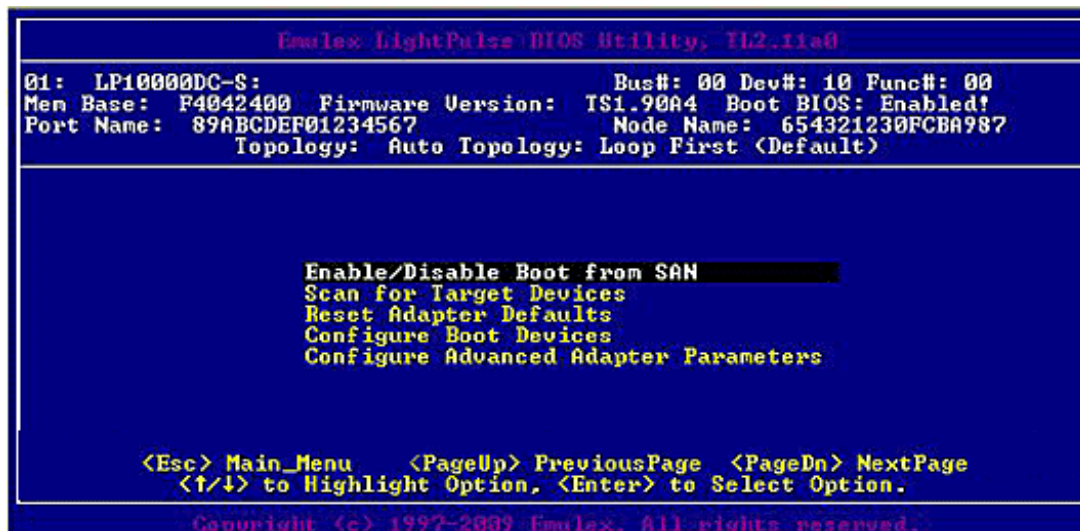
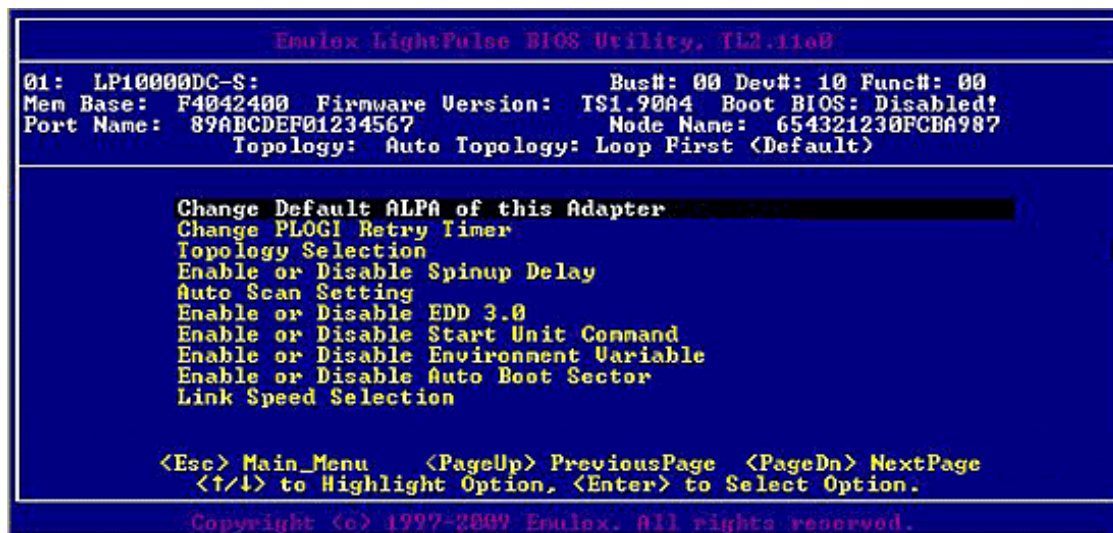

Figure 4-2 Main Configuration Menu
Figure 4-9 Adapter Configuration Menu
2. Select the adapter to configure by entering its number. The main configuration menu is displayed (Figure 4-2).
1. On the main configuration menu (Figure 4-2), select **Configure Boot Devices**.
When the main configuration menu (Figure 4-2) is displayed, select **Configure Advanced Adapter Parameters**. The adapter configuration menu is displayed.
Default settings are acceptable for most installations. To reset all values to their defaults, from the main configuration menu (Figure 4-2) select **Reset Adapter Defaults**.
1. On the main configuration menu (Figure 4-2), select **Configure Advanced Adapter Parameters**. The adapter configuration menu is displayed (Figure 4-9).
1. From the main configuration menu (Figure 4-2), select **Configure Advanced Adapter Parameters**. The adapter configuration menu is displayed (Figure 4-9).